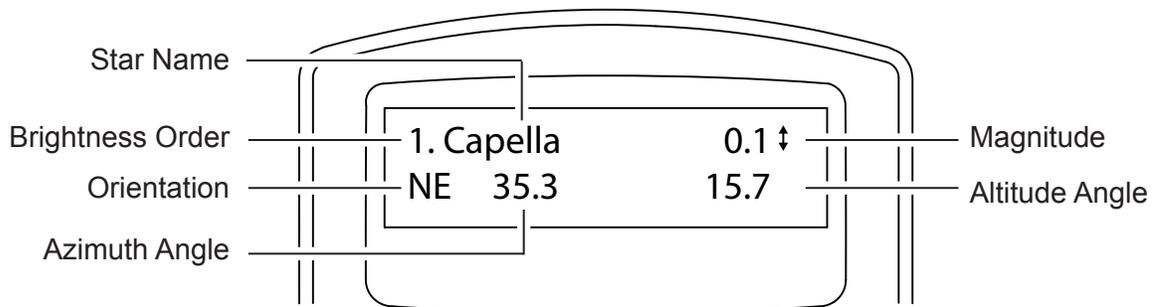

Fig. 3.4b
- The hand controller will generate a list of the bright stars within the selected horizontal region. The list is sorted by the brightness of the star and with the brightest stars at the top of the list. Users can use the scroll keys to browse the list. An example of the screen display is shown in Fig. 3.4b.